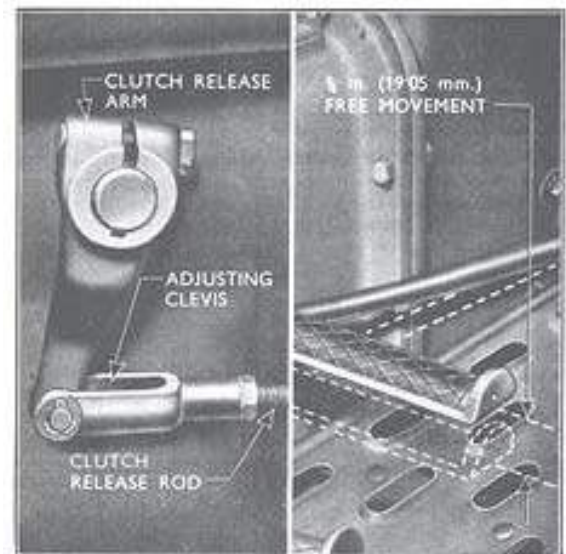

Fig. 3
The only routine adjustment necessary with regard to the single clutch is that for clutch pedal free movement. This is the initial movement of the pedal from the fully engaged position, pedal against the stop bracket, to the point where clutch resistance is felt. When correctly adjusted this movement should be $\frac{1}{4}$ in. (19.05 mm.), measured at the pedal pad (see Fig. 3). As it is most important that correct clutch pedal free movement be maintained, the movement should be checked periodically during service and adjusted when necessary to compensate
2. Unscrew the clevis from the release rod to increase the free movement of the pedal or vice-versa. Reconnect the rod to the clutch release arm with the clevis pin and check that the clutch pedal has the necessary $\frac{1}{4}$ in. (19.05 mm.) free movement at the pedal pad (see Fig. 3).